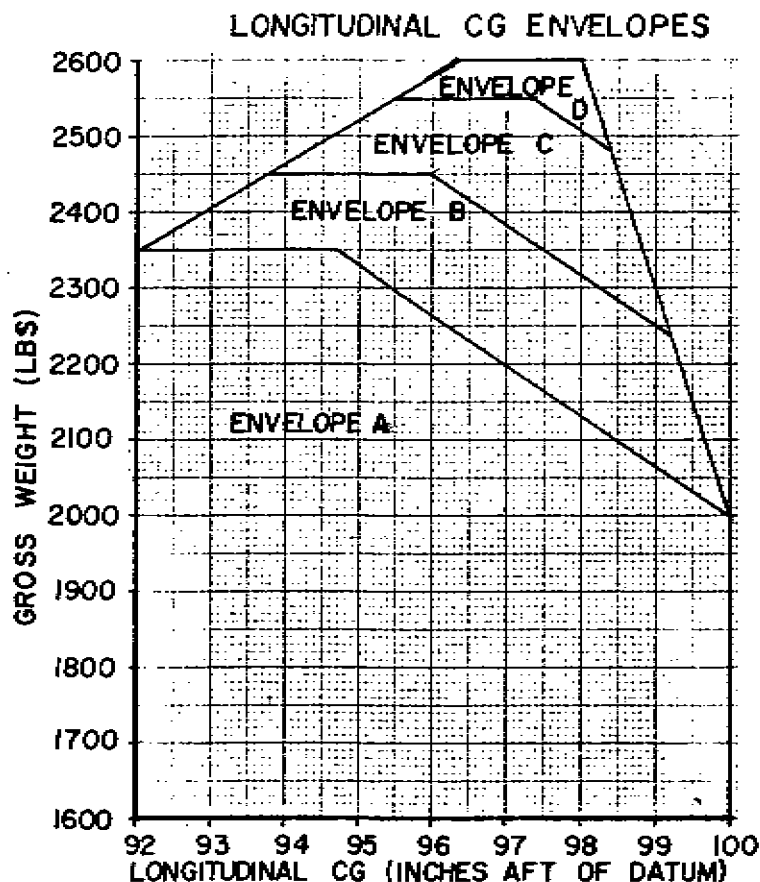

FIGURE 6.1
2. Longitudinal c.g. range variable with gross weight from 92.0 inches to 100.0 inches (see chart, Figure 6.1).